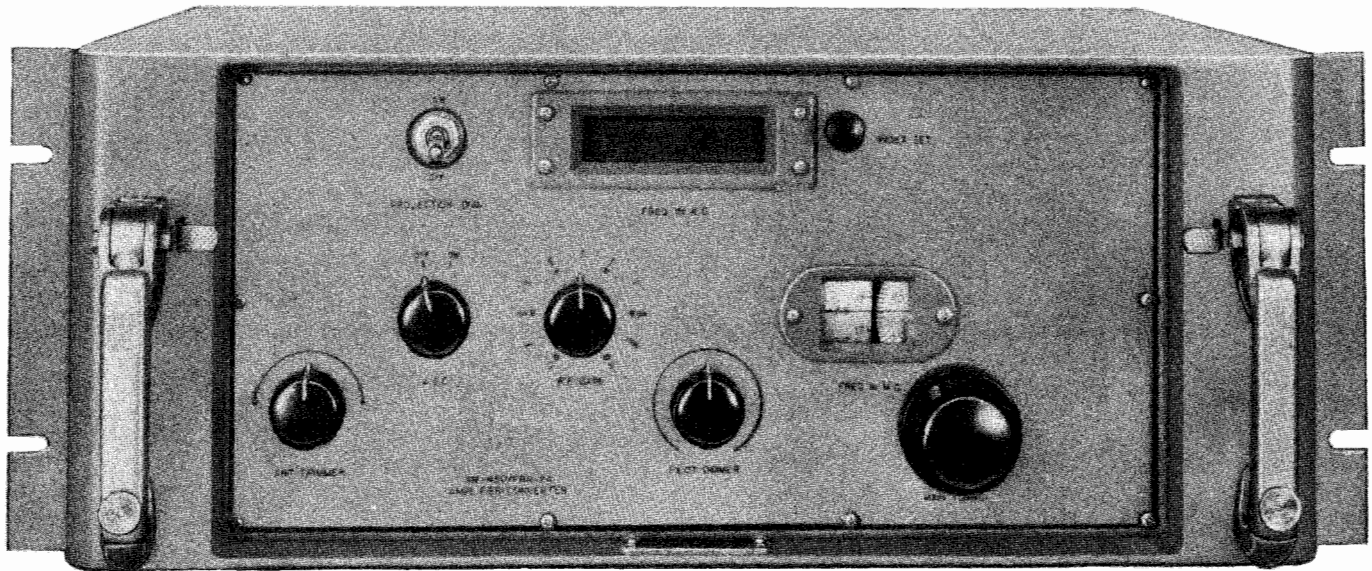

Figure 1-2. Amplifier-Converter Units AM-450/FRR-24, AM-451/FRR-24, AM-452/FRR-24, AM-453/FRR-24
(1) AMPLIFIER-CONVERTER UNITS AM-450/FRR-24, AM-451/FRR-24, AM-452/FRR-24, AM-453/FRR-24. (See Figures 1-2 and 1-3).—These units amplify the incoming R.F. signal and heterodyne this signal to an output intermediate frequency of 1750 kilocycles. The frequency range of these units is 2 to 32 megacycles.